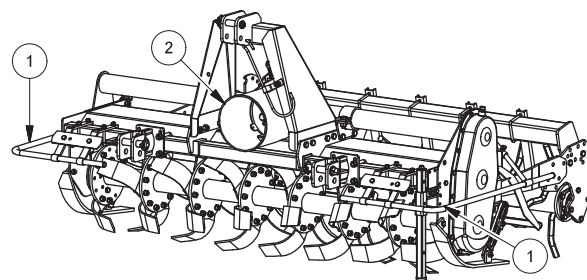

FIG. 19
- PTO guard tractor side (2, "Fig. 19").
- Protective tubes against access to the hoes area (1, "Fig. 19").
- Driveshaft Protections (3, "Fig. 19")